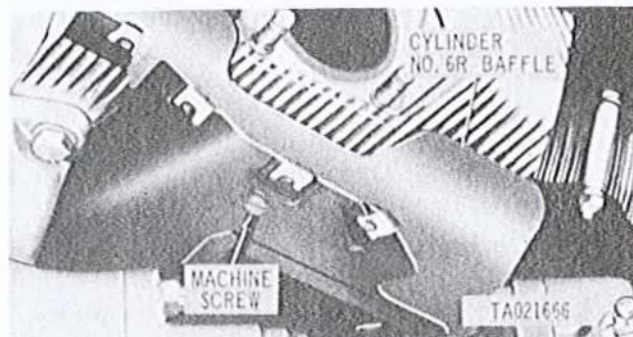
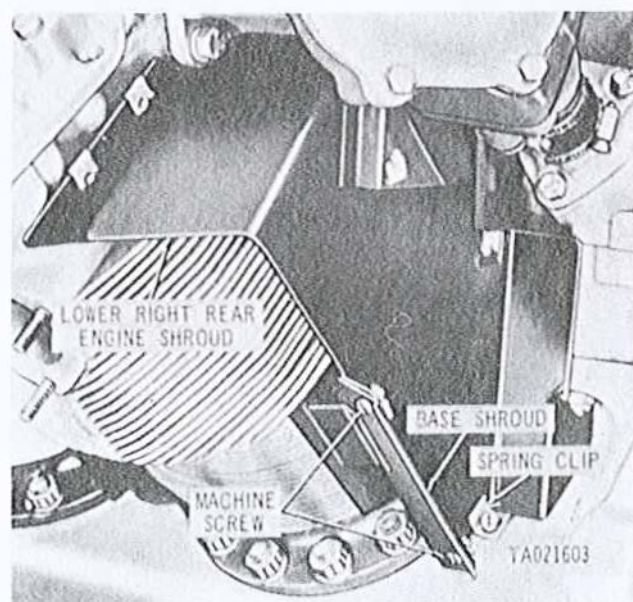

Figure 3-58. Disconnecting or connecting lower right engine shroud.
Figure 3-59. Removing or installing lower right engine shroud and base shroud.
b. Remove machine screw (fig. 3-58) from lower right engine shroud. Remove two machine screws (fig. 3-59) and remove base shroud and lower right rear shroud. Remove machine screw, lockwasher and spring clip from crankcase. Remove left lower shroud, base shroud and clip in the same manner.